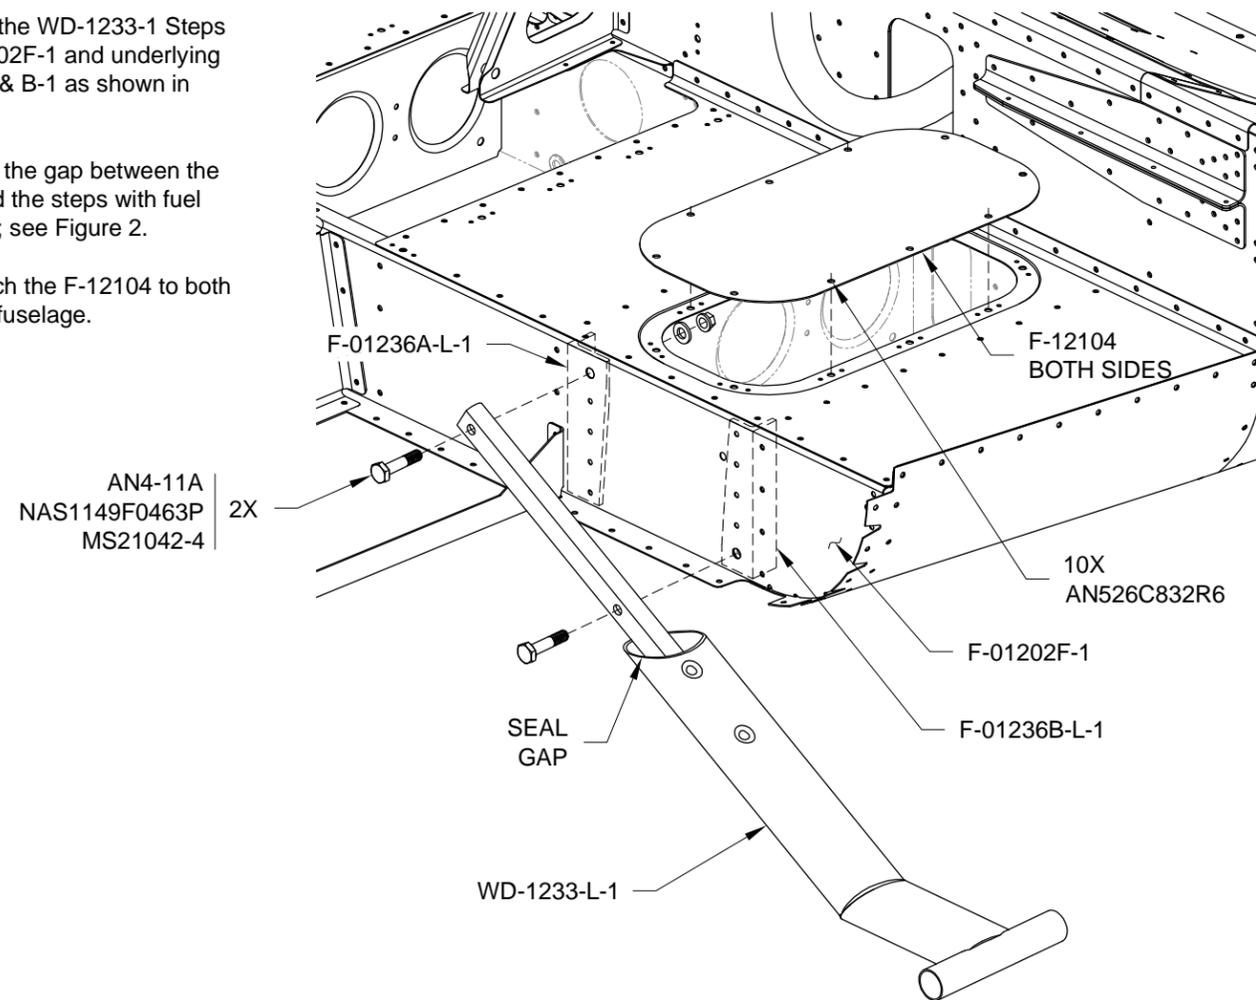

FIGURE 2: ATTACHING THE STEPS
Step 4: Seal the gap between the fuselage and the steps with fuel tank sealant; see Figure 2.